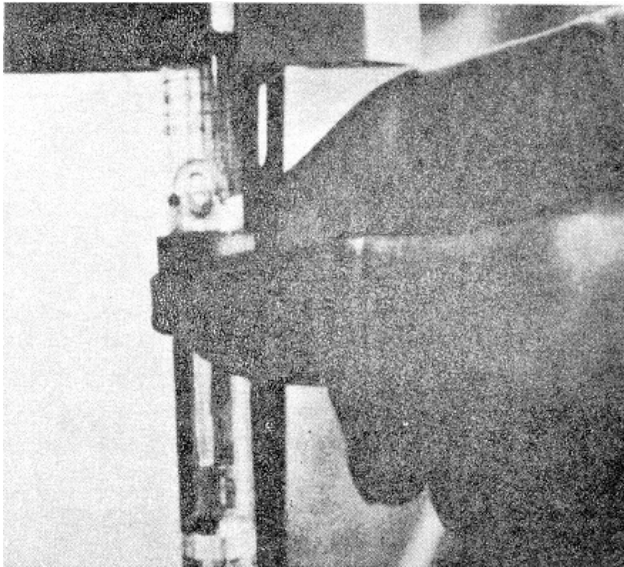
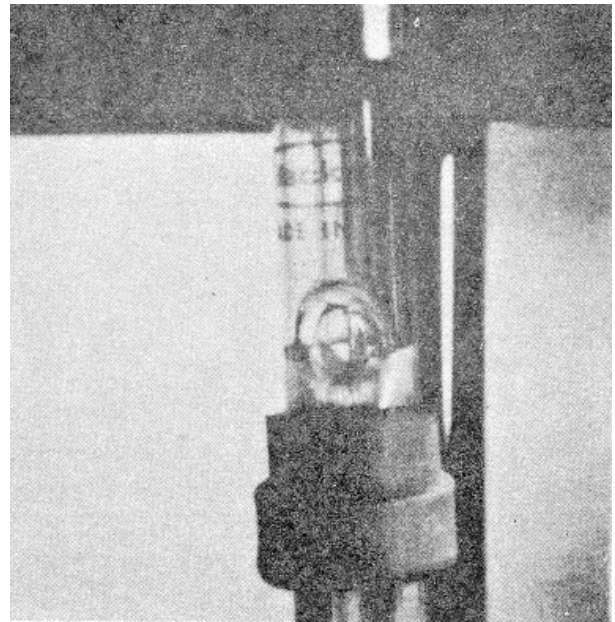

Figure 8
Figure 9
5. Slide the sleeve covering the filling hole of the electrode (figure 8) down, and check to see that the solution in the electrode is at the maximum level (figure 9). If not, check with the Work-Center Supervisor.